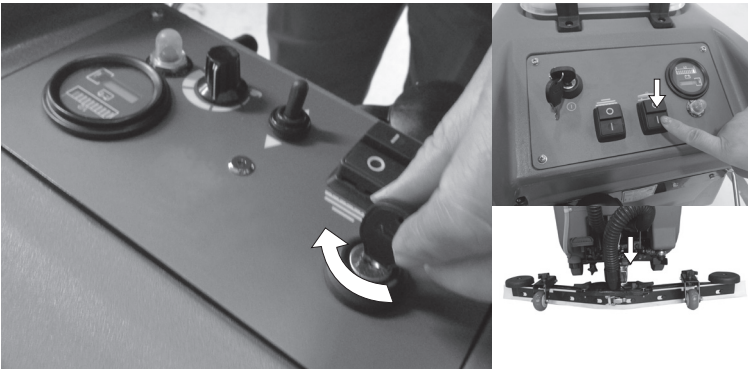

Figure 14
2. For model VMS20M: Turn the main power switch on, press brush motor button and vacuum motor button (Figure 14).